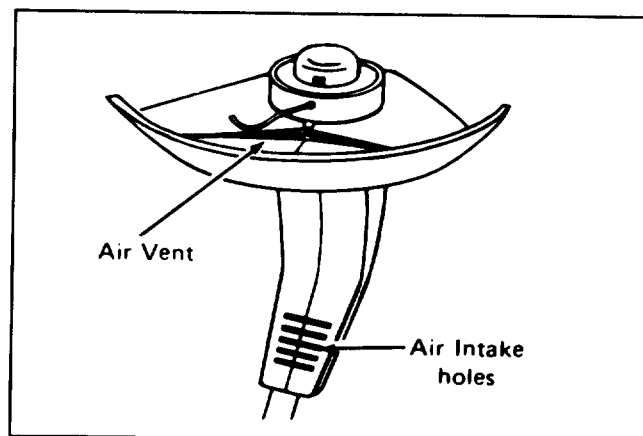

Figure 19
4. Air exhaust vent is located on underside of shield (Fig. 19). Scrape vent clean regularly.
5. Wipe debris away from air intake holes in motor housing (Fig. 19).